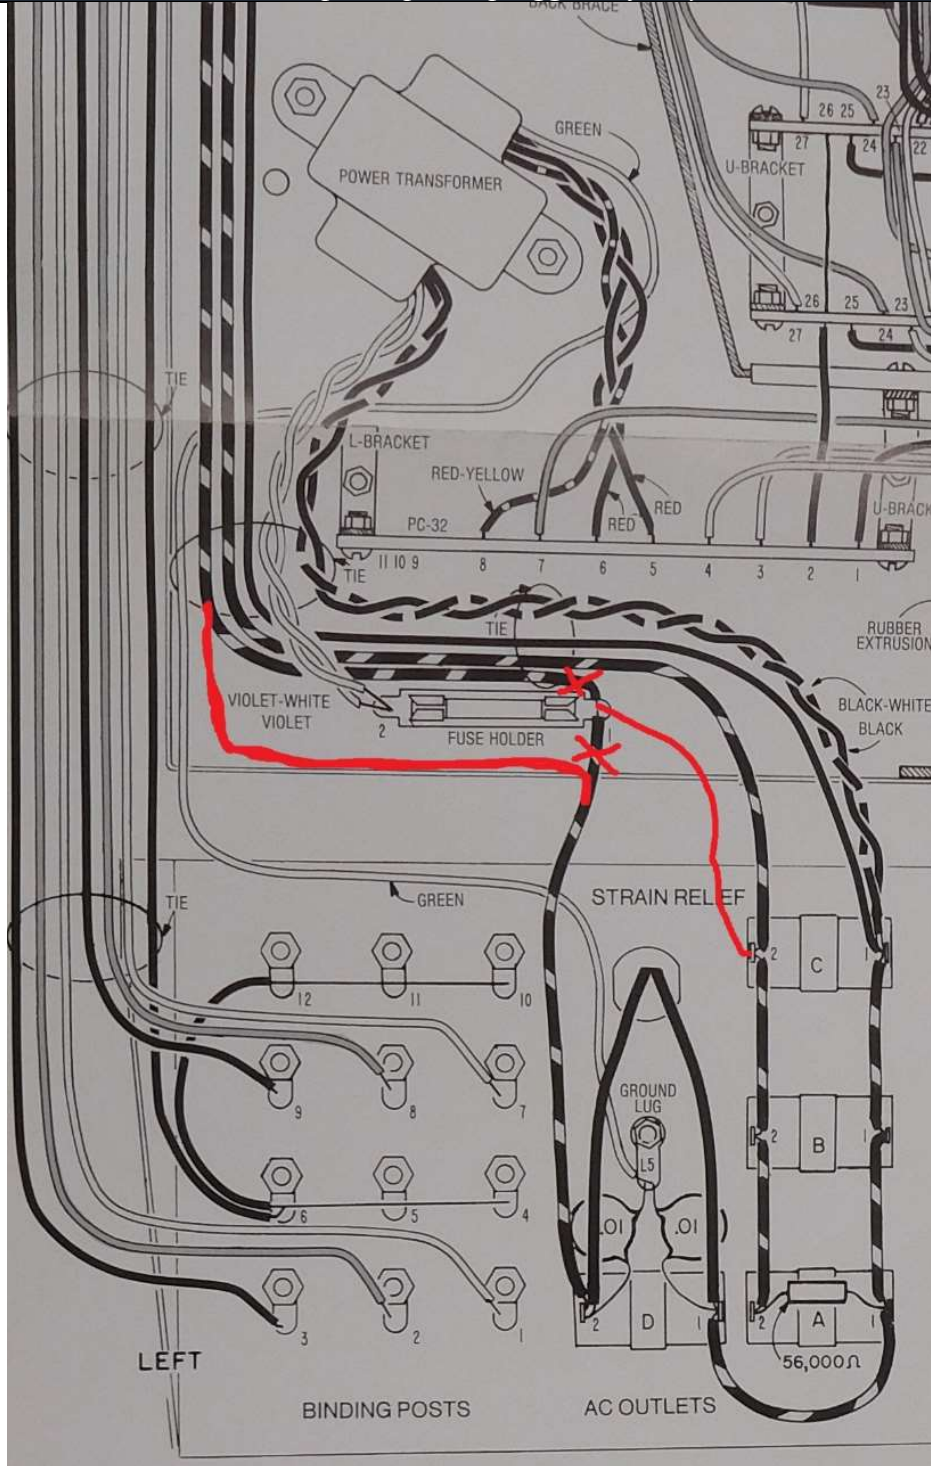
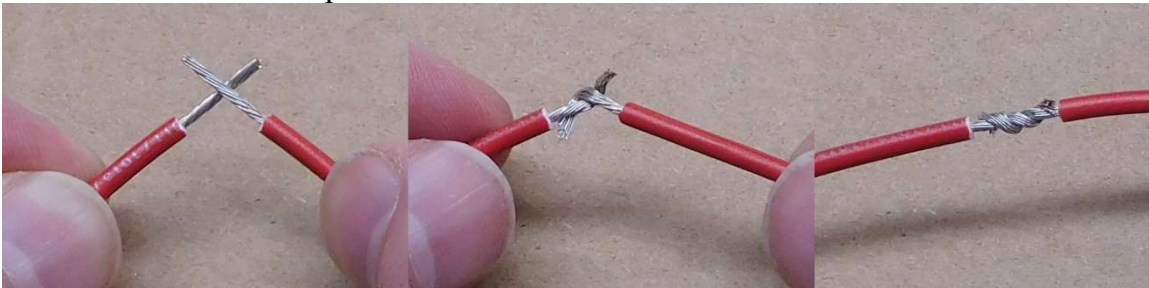

Figure 6-Power wiring change
Figure 7-making a smooth splice
- c. Twist those ends together as shown in the picture below. Your goal is to make a smooth splice with no sharp points. Figure 7-making a smooth splice. Figure 7 shows the method with a piece of red wire I had laying around. The color of the wires that you splice will certainly be different! Just identify them carefully from Figure 6, where we have used red marks to show:
- b. Crimp and solder the other end of the wire to pin 2 of one of convenience outlets A, B, and C (Refer to Figure 6, connect to whichever one is convenient!).